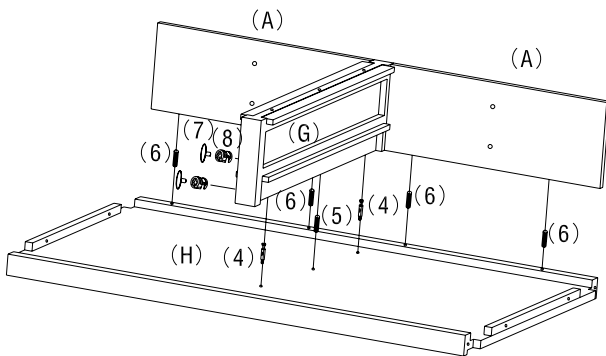

FIGURE 4
5. INSERT CAM-BOLTS (4), LARGE WOOD DOWELS (5) INTO PREDRILLED HOLES ON SHELF (H) AND FIT INTO CORRESPONDING HOLES ON EDGE OF DIVIDER (G). INSERT CAM-LOCKS (8) INTO LARGE HOLES ON DIVIDER (G) WITH ARROW FACING TOWARDS HOLE. ROTATE CAM-LOCKS (8) CLOCKWISE TO SECURE CAM-BOLTS (4). PUSH COVERS (7) INTO CAM-LOCKS (8). INSERT SMALL WOOD DOWELS (6) INTO PREDRILLED HOLES ON FAUX DRAWER FRONT PANELS (A) AND FIT INTO CORRESPONDING HOLES ON SHELF (H). ASSEMBLE BOTTOM PANEL (I) IN SAME MANNER. (AS SHOWN IN FIGURE 4 & 5)